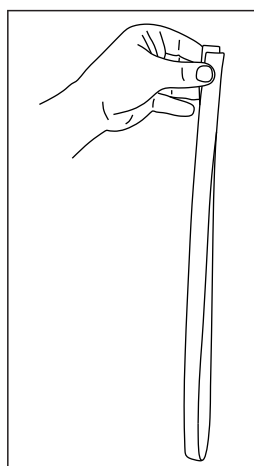

Fig. 28
- You can use the remaining control tape to make a pull handle on either end. Cut the tape to the desired length, fold it over and insert the middle clip's screw into the tape. Then screw the clip to the base. You can hide the handles on top of the canopy when not in use (Fig.28 - 29 - 30 - 31 - 32 - 33).